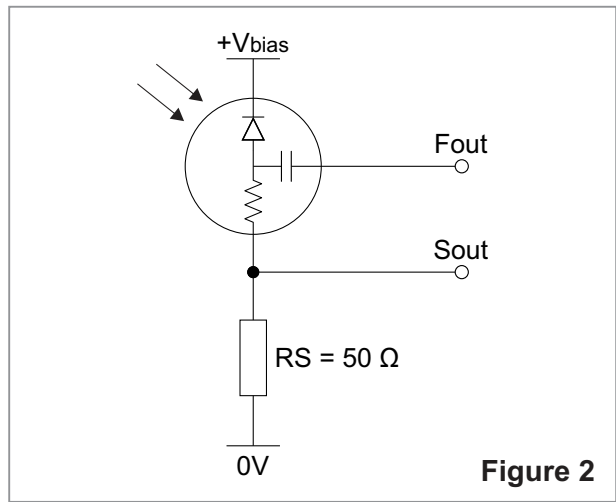

Figure 2
2) There is no need to use a preamplifier. Signal can be monitored directly from the anode of the MacroPixel connected to the ground through a 50 Ohms resistor (Figure 2). At +30 V bias a typical pulse corresponding to 3000 keV deposited energy is about 200mV in amplitude and 20  $\mu$ s long for SC-14x25c-SiPM-T.